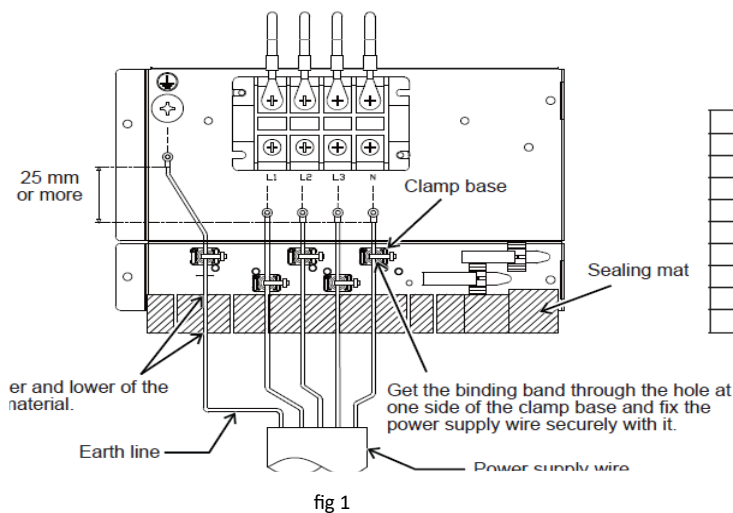

fig 1
- 1) Confirm that the power supply at each outdoor unit is correct, three phase and neutral 380 – 400 volts 50 Hz AC, (Fig1 & fig2).